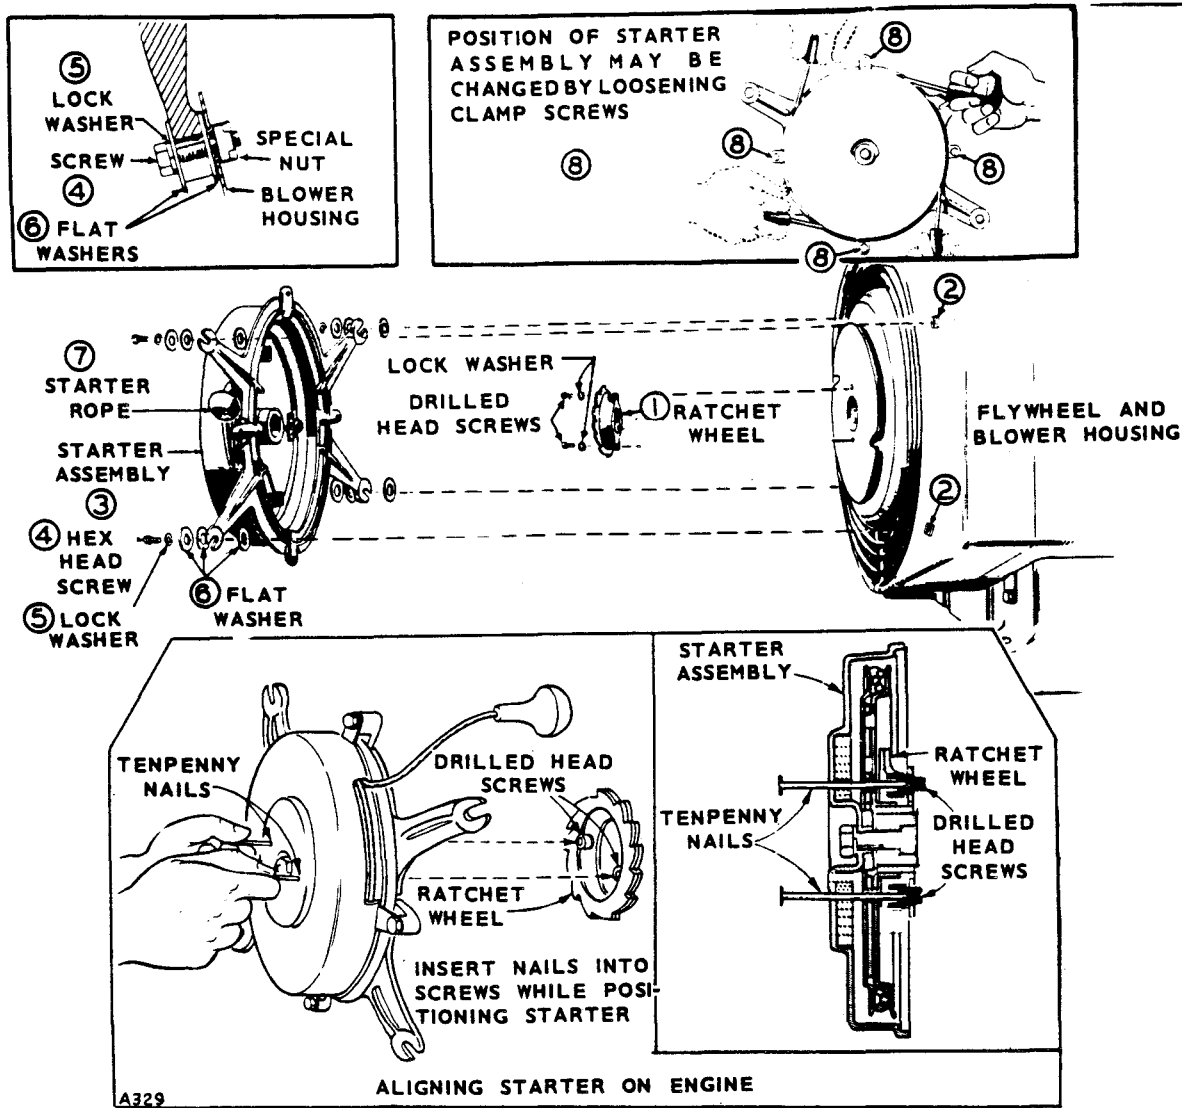

Figure 33. Installing Starter on Engine (Prior Spec D)
**Units Prior to Spec. D:** Refer to Fig. 33. The blower housing on the engine must be as rigid as possible. Examine